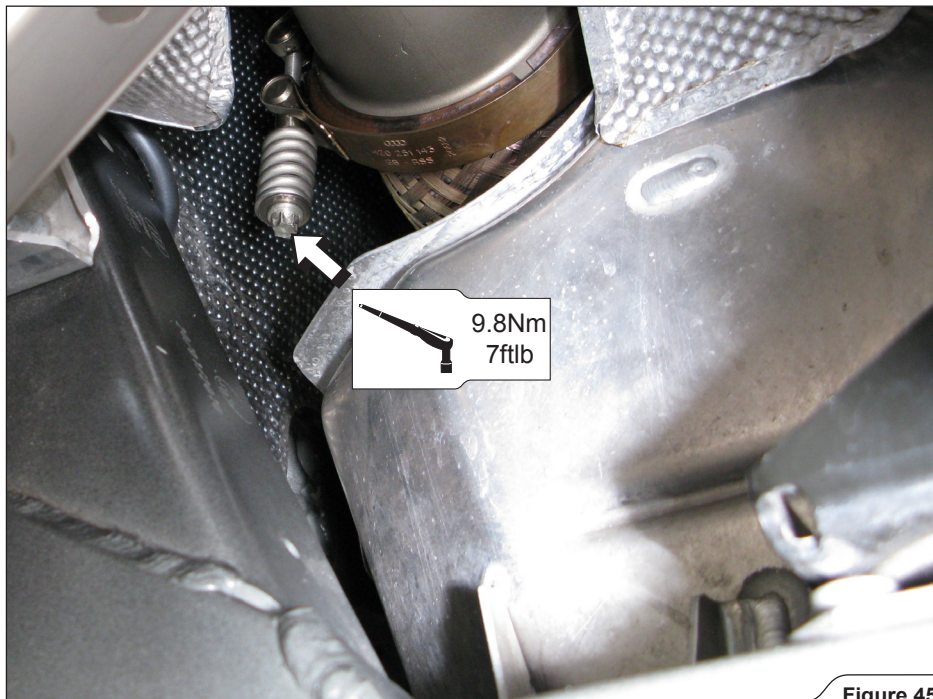

Figure 45
7. Tighten the stock muffler's connection clamps on both sides of the engine (**Figure 45**).